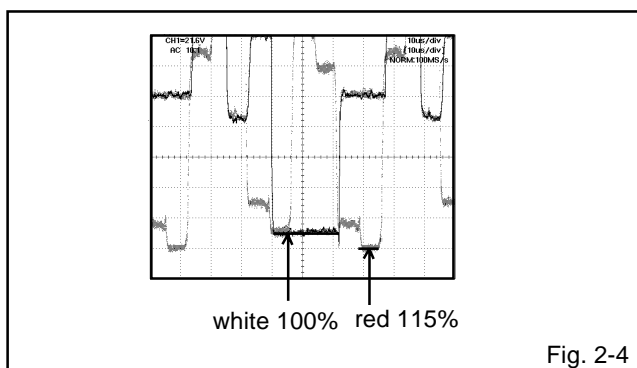

Fig. 2-4
7. Press the VOL. UP/DOWN button on the remote control until the red color level is adjusted to $115 \pm 10\%$ of the white level. (Refer to **Fig. 2-4**)